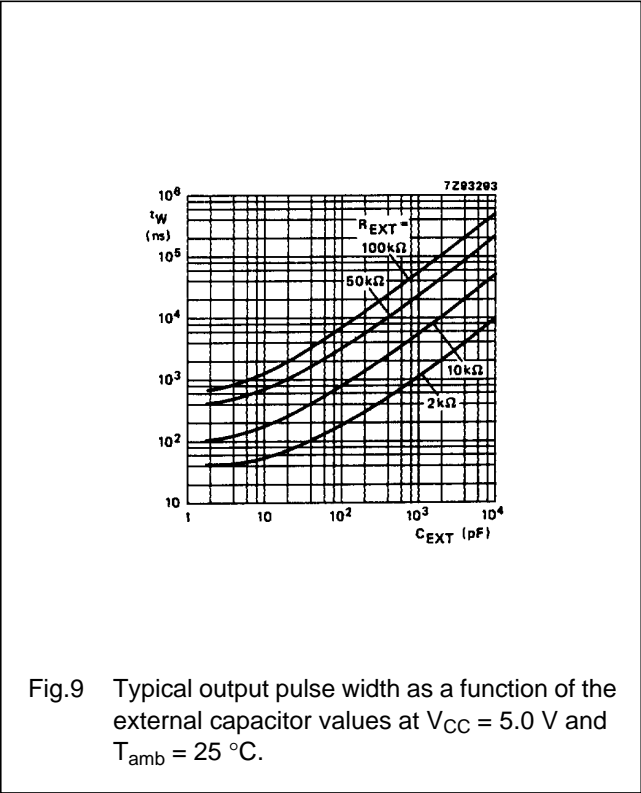

Fig.9 Typical output pulse width as a function of the
| R _{EXT} | external timing resistor | 10 2 | | 1000 1000 | – | | – | | kΩ | 2.0 5.0 | Fig.9 |
| C _{EXT} | external timing capacitor | no limits | | | | | | | pF | 5.0 | Fig.9; note 3 |
| R _{EXT} | external timing resistor | 2 | | 1000 | – | | – | | kΩ | 5.0 | Fig.9 |
1. For other R_{EXT} and C_{EXT} combinations see Fig.9.